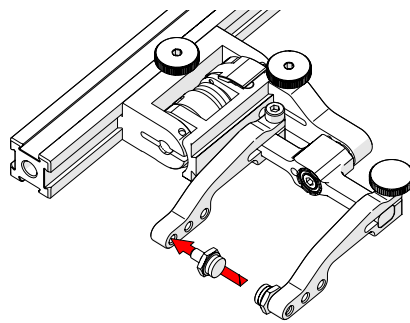

Fig. 45 - Place pivot buttons
4. Using the supplied 3/8 in wrench (Fig. 20), place the pivot buttons as required (Fig. 45).